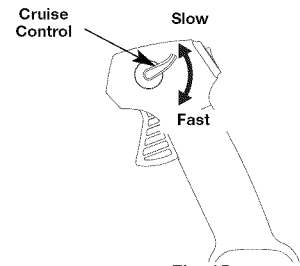

Fig. 15
- Once the engine has started and warmed up, squeeze the trigger to accelerate the unit as needed (Fig. 15).
- For longer periods of operation and to eliminate possible finger fatigue, move the cruise control toward the **FAST** position to incrementally increase or maintain the unit's engine speed (Fig. 15). When the cruise control is pressed, the trigger will recede into the handle.
- To decrease engine speed, move the cruise control to the **SLOW** position and the trigger will return to the idle position (Fig. 15).
- Use the cruise control (Fig. 15) to keep the trigger depressed while operating to make continuous operation easier.